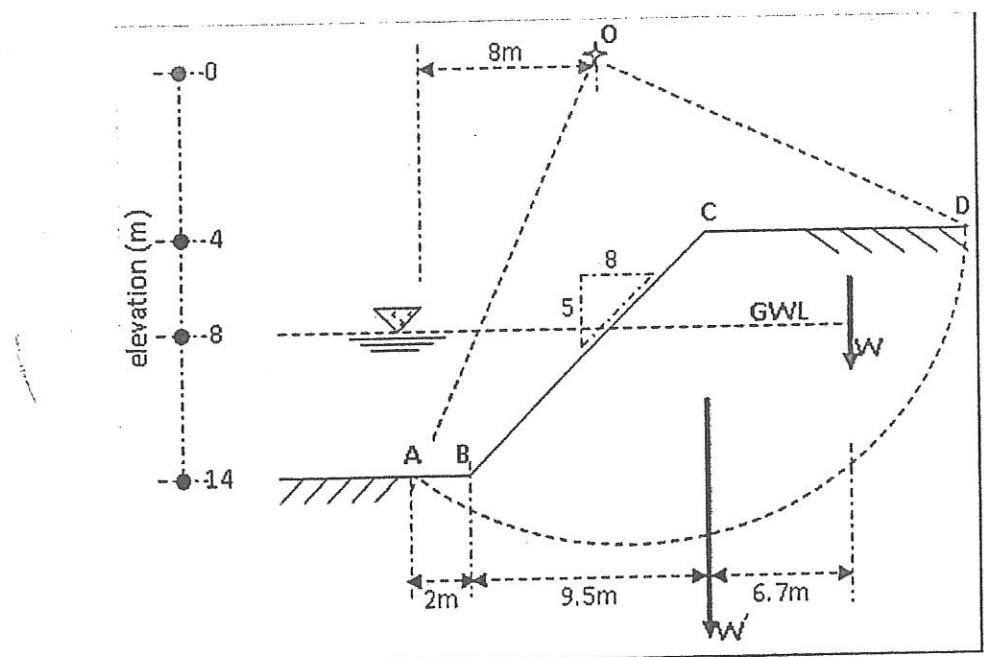

Figure 3 / Rajah 3
Figure 3 below shows a 10m height slope. The slope comprises of a clay layer with the shear strength, C_u of 50 kN/m^2 , and the average unit weight is 19.0 kN/m^3 .
- (b) Determine the safety factor against slip failure if it occurs along the profile shown in Figure 3 with the following conditions: